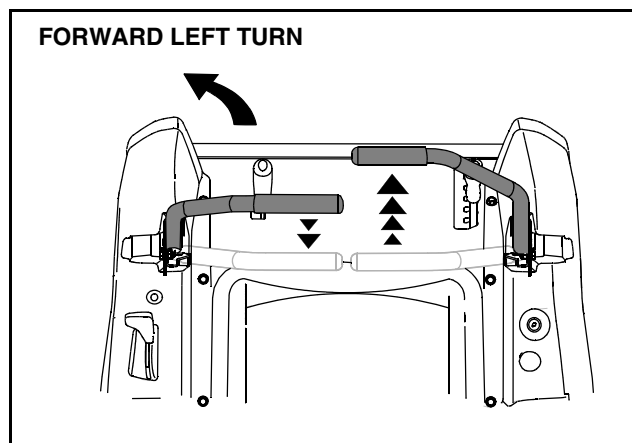

Figure 12
- To turn to the left, move the left drive control lever rearward of the right lever. See Figure 12.